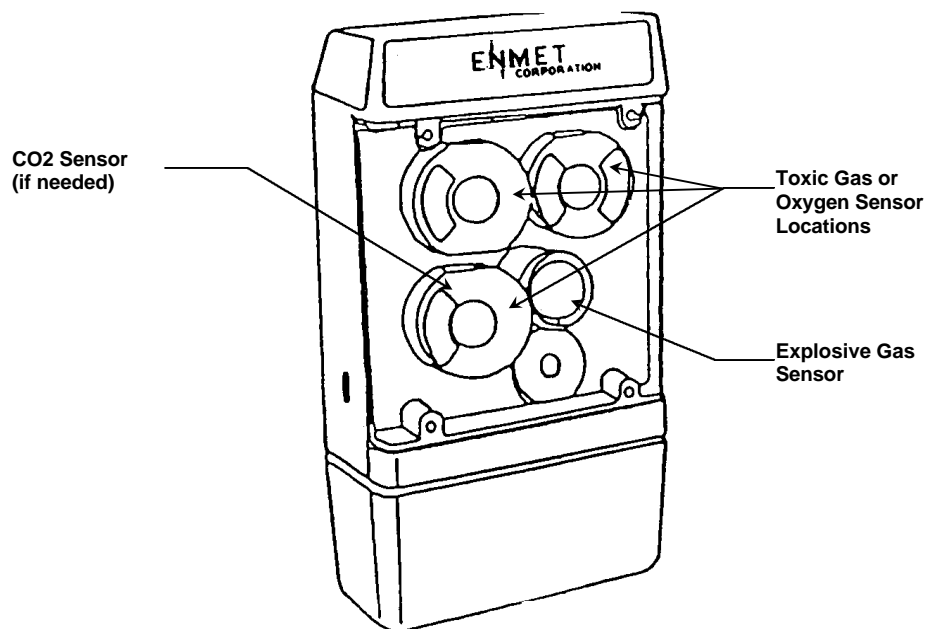

Figure 3-14: Acceptable Locations of Oxygen and Toxic Sensors
- Use the screwdriver to remove the cover which contains the sensor openings. See Figure 3-14
Possible locations of the oxygen sensor are channels 2, 3, and 4. See Figure 3-14.